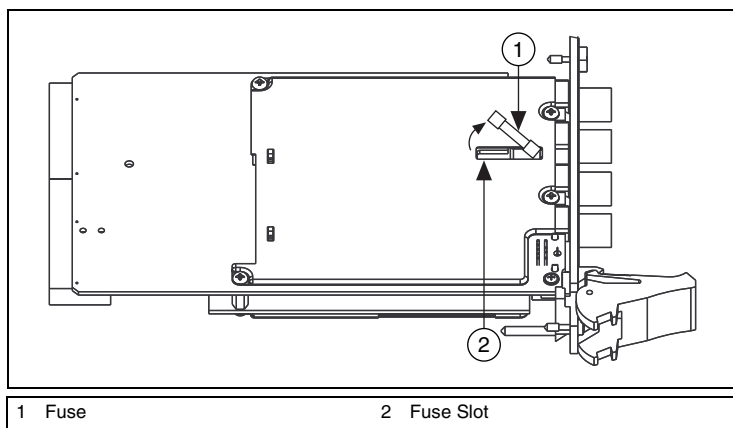

Figure 20. Removing the Fuse from the NI PXI-4070, NI PXI-4071, or NI PXI-4072
6. Locate the fuse slot shown in Figure 20.